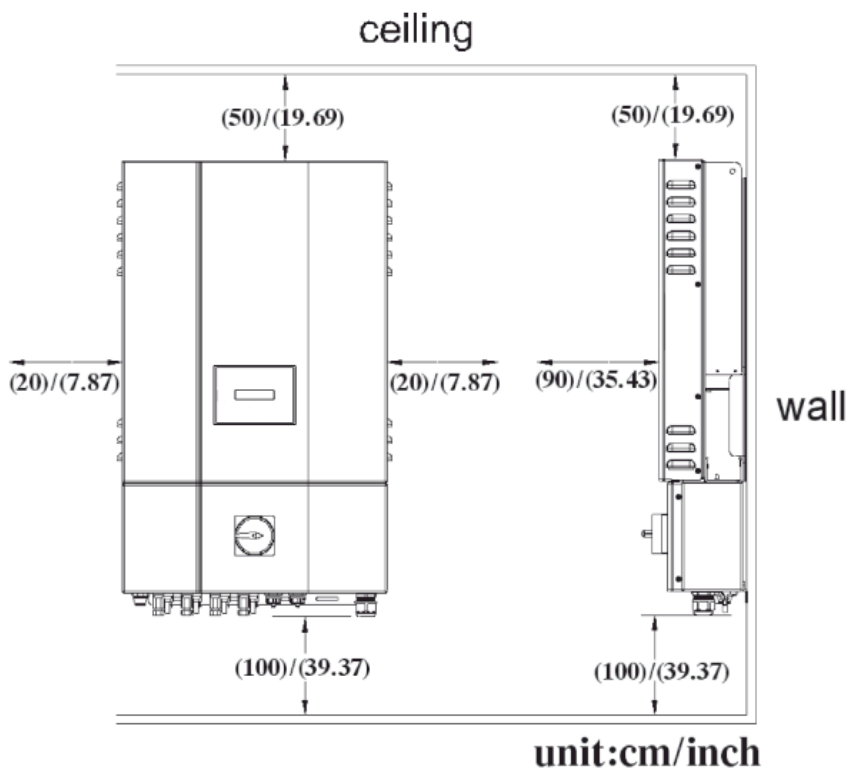

Fig 2.1.1 Clearances required for ISMG1 inverter installation
2. Leave at least 50 cm (19.67 inches) of free space above and 100 cm (39.37 inches) below the inverter when installed outdoor. Allow 20 cm (7.87 inches) between inverters when installing multiple inverters for better ventilation (see figure 2.1.1).